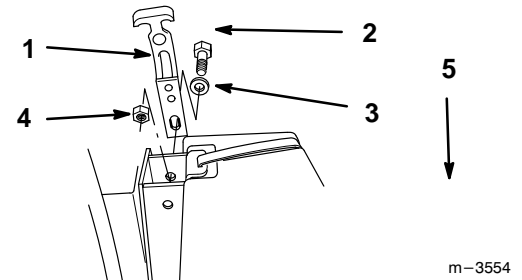

Figure 12
4. Secure hopper latch to the frame with 1/2"–13 x 1" (25 mm) bolts and 1/2"–13 locknut (Fig. 12).